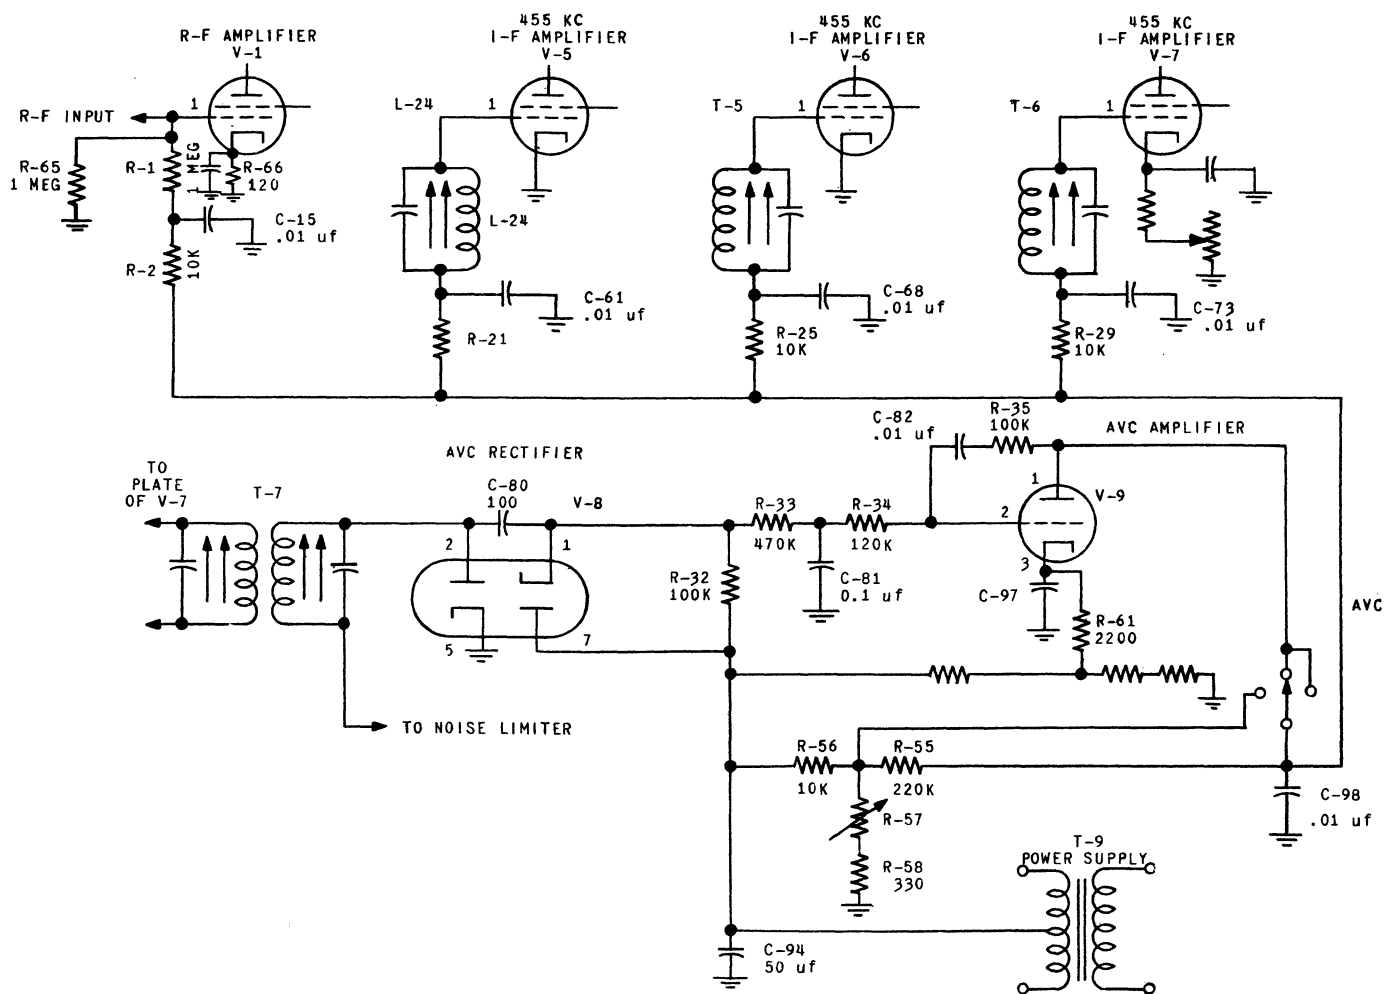

FIGURE 4-4 AVC CIRCUIT
4.5.6. AUTOMATIC VOLUME CONTROL. - The problem of blocking due to strong signals or heavy static is reduced by the use of an amplified AVC system and a low impedance AVC line. Refer to figure 4-4. The second triode section of V-8 is used as an AVC rectifier to produce the control voltage for the AVC section of amplifier tube V-9. The AVC voltage applied to the grids of the controlled tubes is produced by the voltage drop across resistor R-55 when plate current flows through the AVC amplifier tube V-9. Plate voltage for V-9 is obtained from the voltage drop across resistors R-36, R-37 and R-38 which are in series with the center tap of the power transformer to ground. V-9 will not draw plate current, however, with no signal input to the receiver because of approximately 11 volts of bias placed upon its grid by the voltage drop through R-36. This bias voltage for V-9 is taken from the end of R-32 through which the rectified carrier flows in opposition to the bias voltage. Thus, when the rectified carrier becomes strong enough to overcome the bias voltage on V-9, V-9 will draw plate current and produce a voltage drop across R-55 thereby producing AVC voltage in proportion to the strength of the received signal. The bias on the grid of V-9 is high enough to produce adequate delay in the generation of AVC voltage to allow the receiver to function with full sensitivity on weak signals. Resistor R-33 and capacitor C-81 form the time constant in the AVC circuit. R-34 and C-82